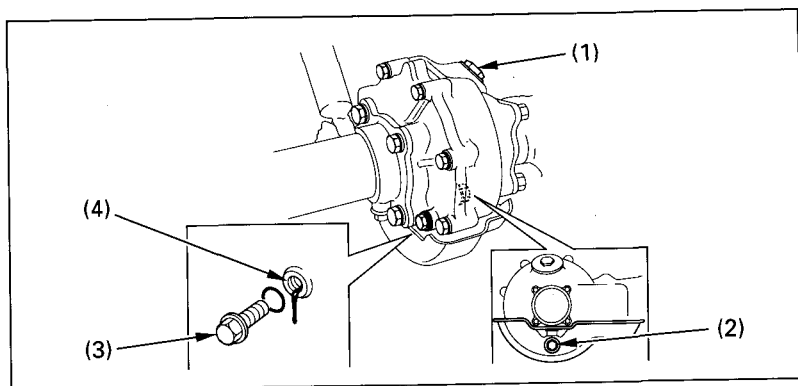

Fig. 4-14 (1) Oil filler cap
1. To drain the oil, first place an oil drain pan under the oil drain plug (Fig. 4-14).
2. Remove the oil filler cap (1) and the drain plug (2).